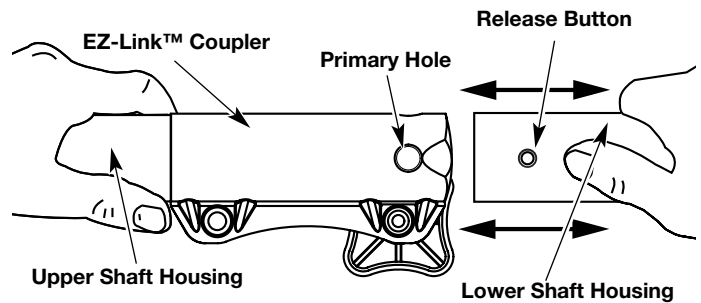

Fig. 24
3. While firmly holding the upper shaft housing, pull the cutting attachment or add-on straight out of the EZ-Link™ coupler (Fig. 24).
2. While firmly holding the add-on, push it straight into the EZ-Link™ coupler (Fig. 24).